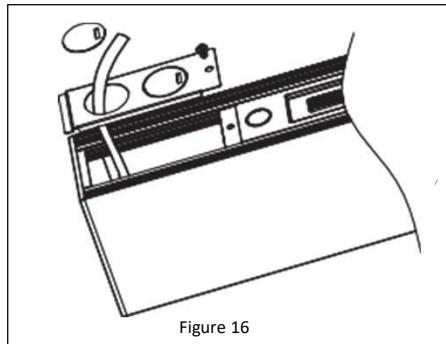

Figure 16
5. Pry the knock-out in the cover, then unscrew the cover, lead out the wires for connecting. Make wiring connections according to the **Wiring Diagram**, then reinstall the cover. *See Figure 16.*